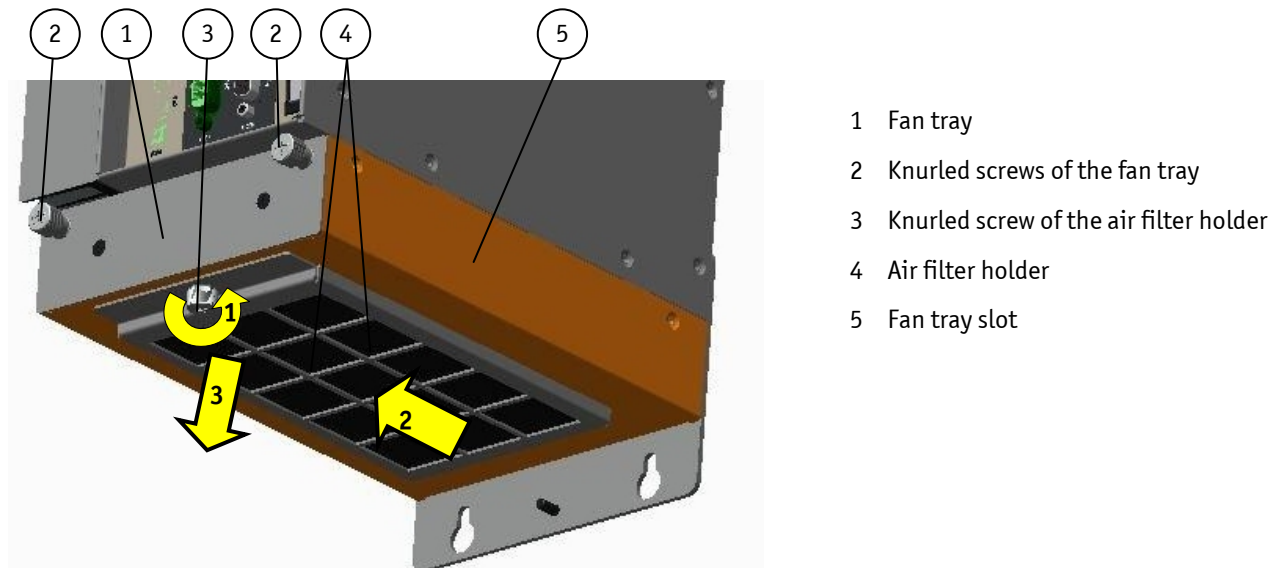

Fig. 41: Detail KBox C-101 with fan tray extension: air filter holder on the bottom side
1. Ensure to have access to the bottom side of the KBox C-101. The fan tray (Fig. 41, pos. 1) and (Fig. 42, pos. 2) may be replaced without removing the air filter holder (Fig. 41, pos. 4).
2. Loosen the two knurled screws (Fig. 41, pos. 2) of the fan tray.
1. Ensure to have access to the bottom side of the KBox C-101. The air filter may be replaced without removing the fan tray (Fig. 41, pos. 1).
2. Loosen the knurled screw (Fig. 41, pos. 3) that secures the air filter holder (Fig. 41, pos. 4) to the fan tray slot (Fig. 41, pos. 5); refer to step 1 in Fig. 41.
3. Pull the air filter holder out of the positioning holes, (Fig. 42, pos. 9) into the marked direction (see Fig. 41) and pull it down. Put the air filter holder aside for later reassembly; refer to step 2 and 3 in Fig. 41.
4. Remove the soiled air filter (Fig. 41, pos. 3) and (Fig. 42, pos. 6).
8. Secure the air filter holder by tightening the knurled screw to the tapped hole (Fig. 42, pos. 4) of the fan tray slot (Fig. 41, pos. 5) or (Fig. 42, pos. 3).